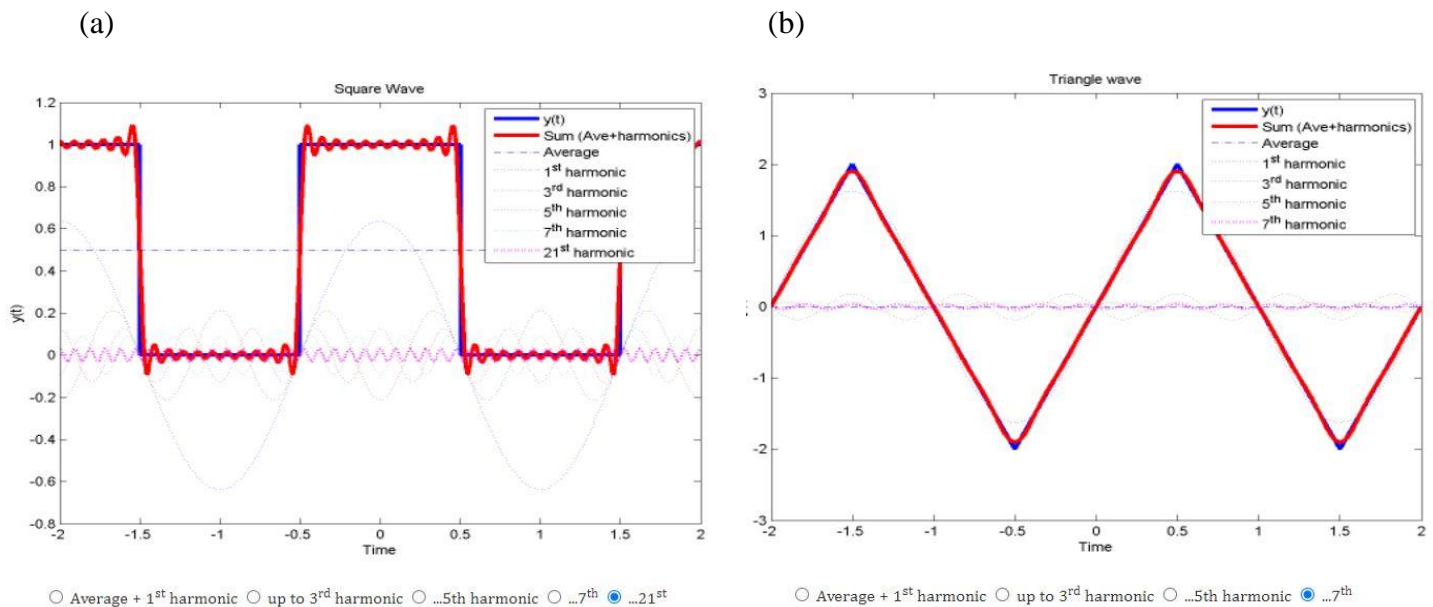

Figure 2.1. (a) The superposed square wave with 21 summation terms, and (b) The superposed triangle wave with 7 summation terms.
Derivation details for both formulas will not be included in this manual, but can be obtained in the reference [5] and [6]. Moreover, a wave simulator is provided in the reference [7], which reveals the transient wave forms for both waves with different amounts of summation terms (n) in formula (17) and (18). Results of the wave simulator are shown in **Fig. 2.1(a)** and (b), the red line represents the superposed wave while the blue one indicates the ideal wave.